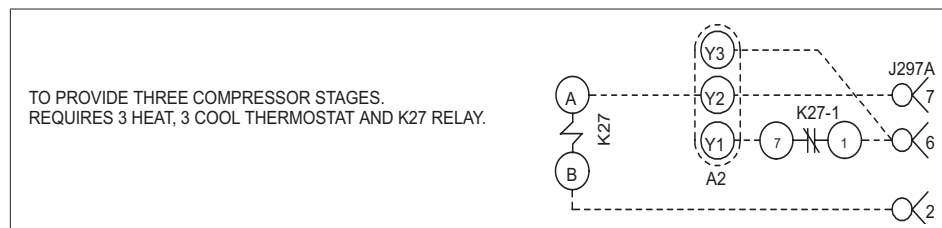

Figure 2. Third-Stage Cool (Parameter 111) Wiring
- **Option 3. Three Cooling Stages:** Cooling operation is shown in table 3; this option requires the use of a three-stage cool thermostat and a K27 relay. See wiring pictorial in figure 2 and C section control wiring diagram.